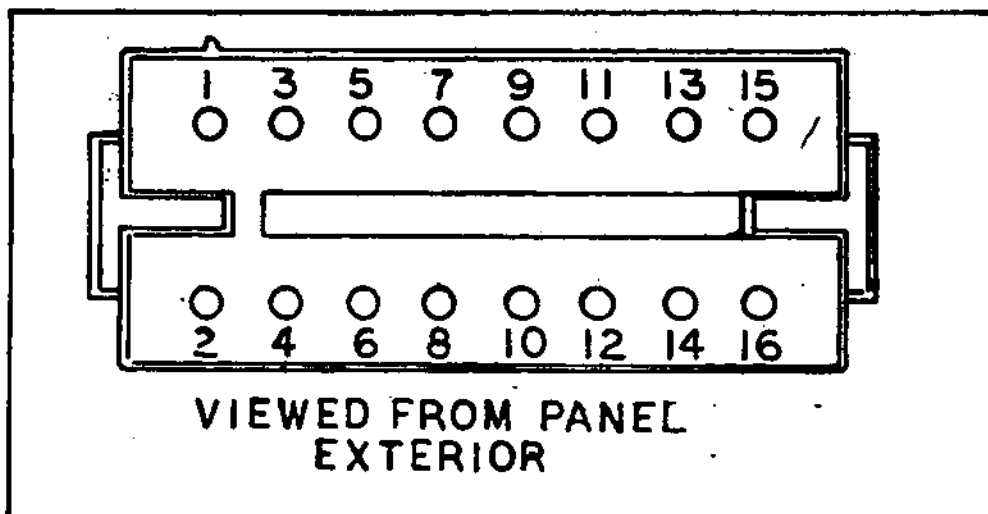

Figure 3.3-C. Pin Identification- 16 Pin Receptacle
3.3.4- FIELD BOOST DIODE (Figure 3.3-A)
3.3.5- TERMINAL STRIP TB4 (Figure 3.3-A, 3.3-D)